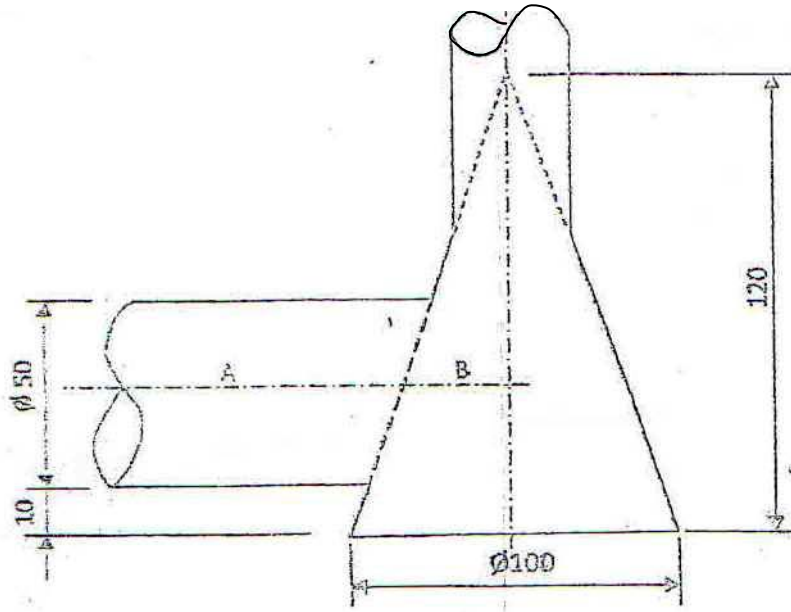

Figure 10
14. Figure 10 shows a branch pipe A connected to a conical shaped base of a chimney B.